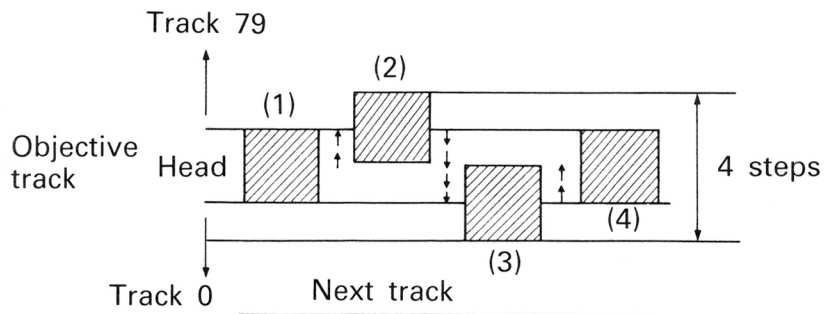

Fig. 7-7
Because this disk drive is not equipped with an erase head, the erase operation is done by the read/write head. When the write command is received, the objective sector is sought and read. At this stage, the ID of the disk is checked to determine whether the head arrived at the objective track. If the objective sector cannot be read even after 12 retries, the write operation ends with an error condition. Otherwise, the head moves one step in the direction of track 79, as shown in Fig. 7-7(2), to erase the objective hard sector. In erasing the data, the signals WD and \overline{WD} are kept high and low or low and high, respectively. Then the head moves two steps, as shown by (3), to erase the other side of the track. The head eventually moves one step to write the data on the objective track.